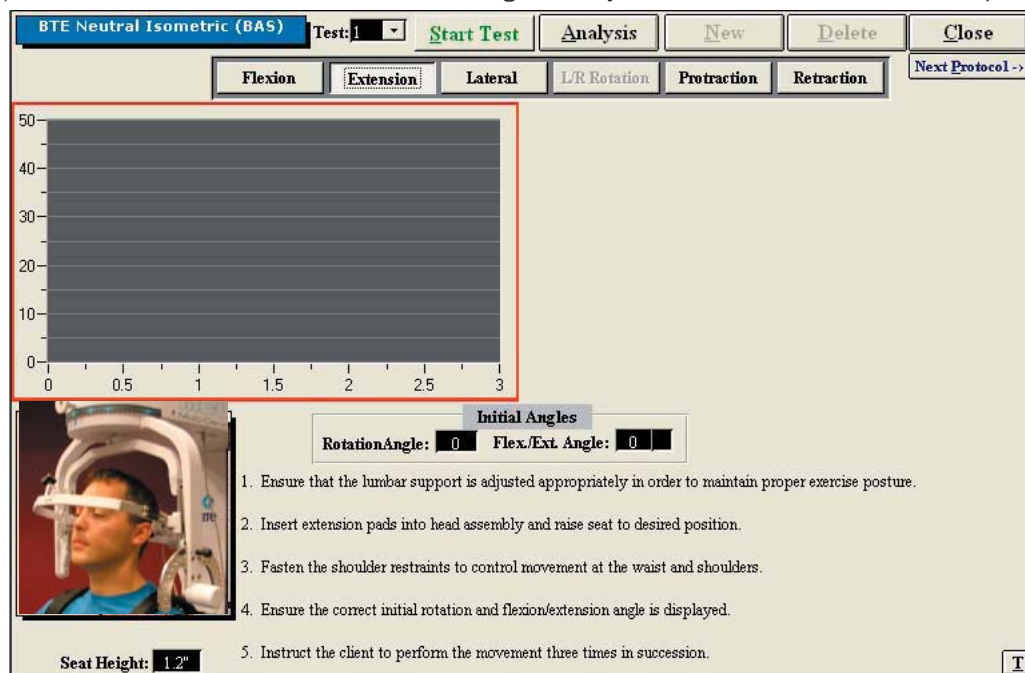

Figure 6-81. Cervical Strength - Extension Test
Step 1. Select the **Extension** icon. The Extension Testing screen will appear (Figure 6-81). Note that the screen shown in the figure may differ from that on the computer.